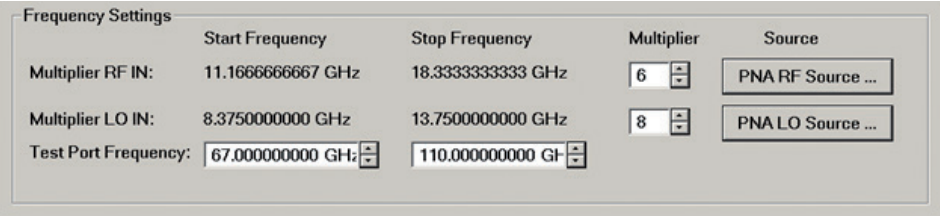

Figure 7. Steps necessary to create a millimeter-wave module configuration. The example shows a frequency band of 67 to 110 GHz.
1. **System > Configure > Millimeter Module Config...**, this brings up display (a) as shown in Figure 7.